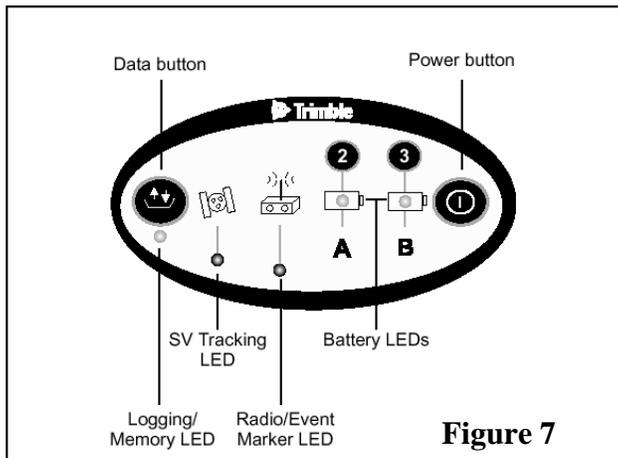

Figure 7
- Power on the receiver by pressing the Power button (see Figure 7).
- Check status with the indicator lights on the receiver. Make sure it is tracking satellites and logging. The indicator lights on the top panel (Figure 7) will show the following:
- If the receiver does not automatically begin logging, then press the Data button (see Figure 7).